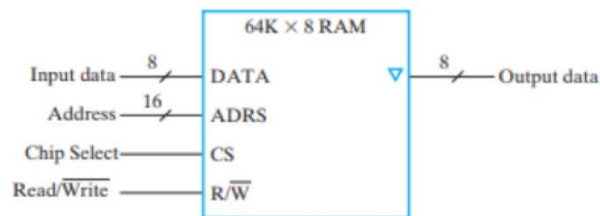

FIGURE 7-9
- 7-9. Using the $64K \times 8$ RAM chip in Figure 7-9 plus a decoder, construct the block diagram for a $1M \times 32$ RAM.